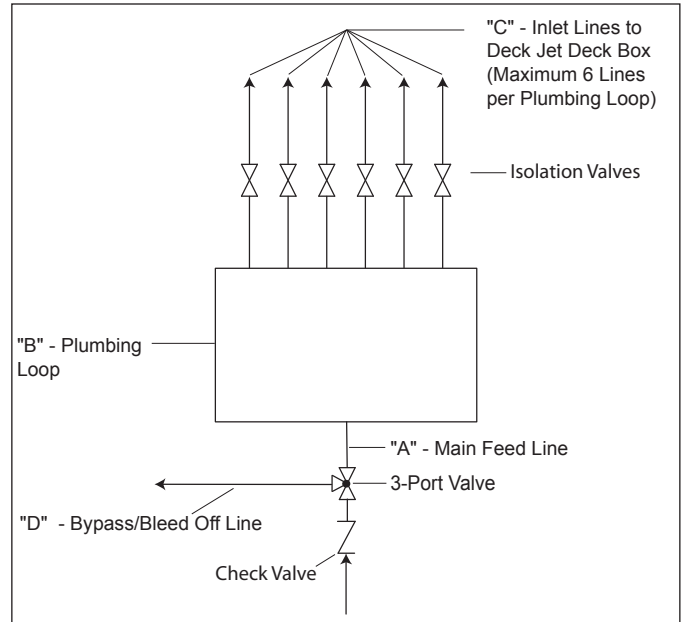

Figure 1. Multiple Jet Plumbing Diagram
1. Determine proper feed pipe size for multiple jet setups. Refer to both Table 1 and Figure 1.
NOTE A 3-Port Valve should be installed on the main feed line near the pump for the adjustment of total water pressure to all Deck Jets (see Figure 1).
3. From the main feed line, reduce to ¾" piping for each Deck Jet (see Figure 1). Either provide individual valves for each jet, or create an equal pressure loop to equalize pressure in the line.